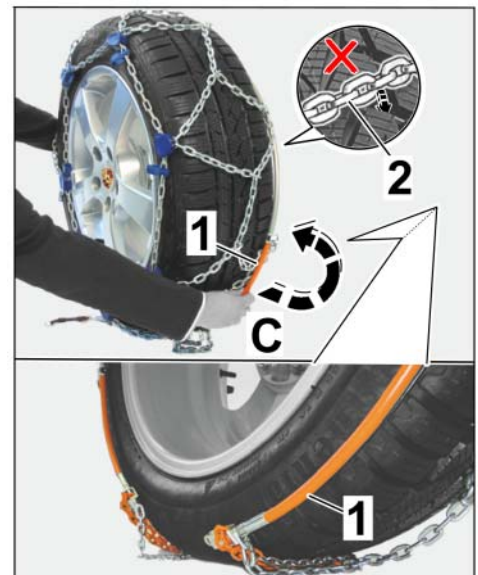

Figure 6
- 2.1.4 Guide the ends of the spring steel clip at the bottom of the wheel behind the wheel (⇒ *Figure 6 -C-*).
- 2.1.6 Arrange the chain net and make sure that no bars of the chain are caught in the tread (⇒ *Figure 6 -Magnifier-*).